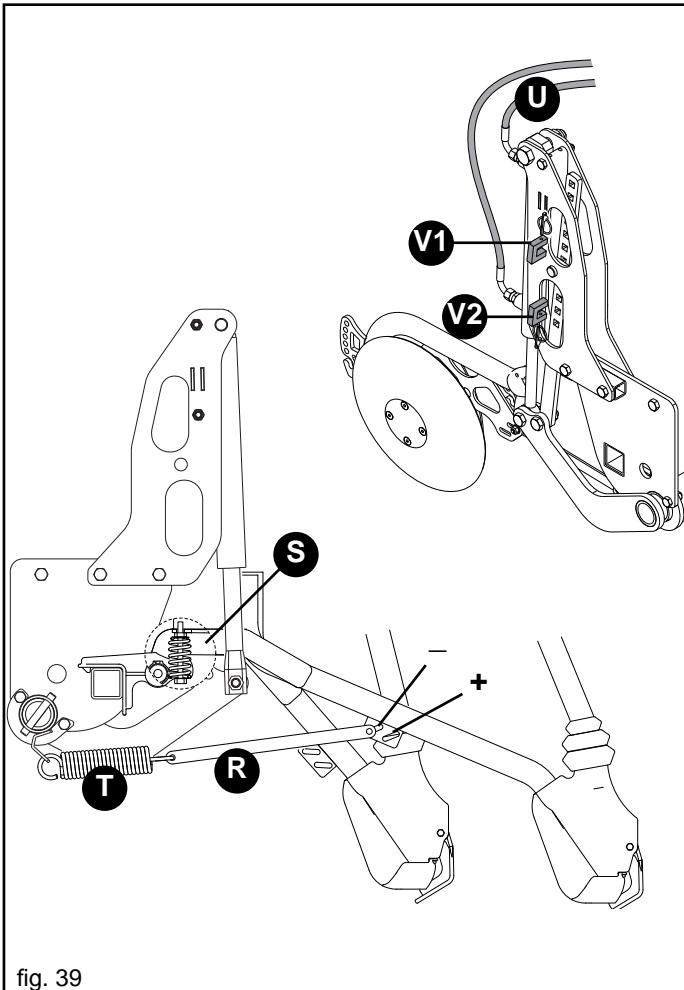

fig. 39
The blocks (V1-V2, Fig. 39) are used to identify the maximum and minimum planting pressure respectively that can be applied on the furrowers and act as end-of-travel pieces for the hydraulic cylinder.
You can further adjust the pressure, separately, changing the position of the tie-rod (R, Fig. 39).
With suffolk coulters only a spring (S, Fig. 39) is supplied, as an accessory, to reset the weight of each individual spring element (T) when the spring is fully unloaded. Shallow seeding is possible in this condition.